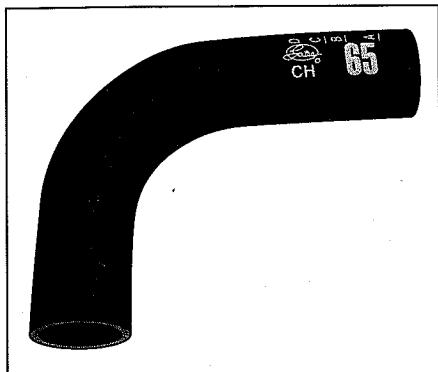

Figure 14-5:
- ✓ **If it's a top radiator hose:** *Don't* get a radiator hose that has wire inside it. Radiator hoses have to bend to fit properly between the radiator and whatever they lead to. Some hoses are straight tubes, with wire coiled inside the rubber casing. These are called *universal* hoses; they're designed to bend to fit many cars. Often, the wire breaks or works its way through the top covering of the hose, causing the hose to leak. The kind of hose to look for is called a *preformed* hose, shown in Figure 14-5, which is made with the proper bend already in it and no wire inside the rubber.